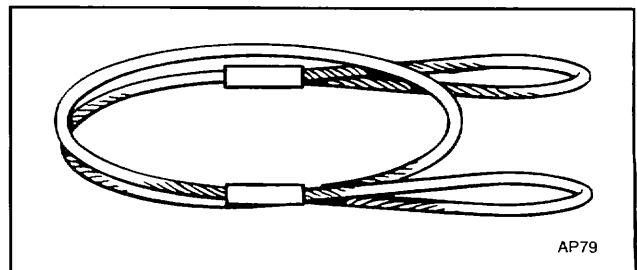

Figure 5. Cable Sling
- Chain or cable sling about 10 feet long of adequate size for job. See Figure 5.